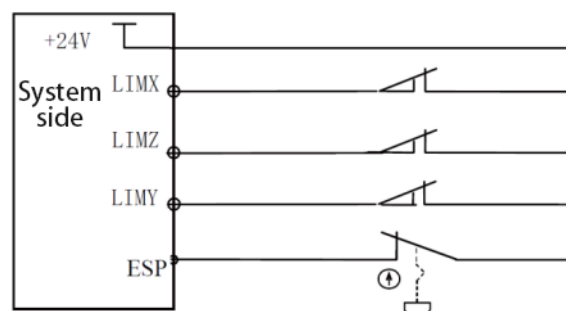

Figure 2-34B Emergency stop and travel switch are independently connected
- (2) The travel limit is independently connected with the emergency stop, and the connection mode is shown in Figure 2-34B below: